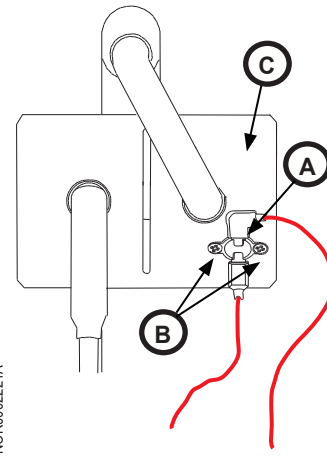

Fig. 4 - External Fan Thermostat
1. Remove fan thermostat screws (Fig.4,B) (2x); remove thermostat (Fig.4,A). Save all parts.